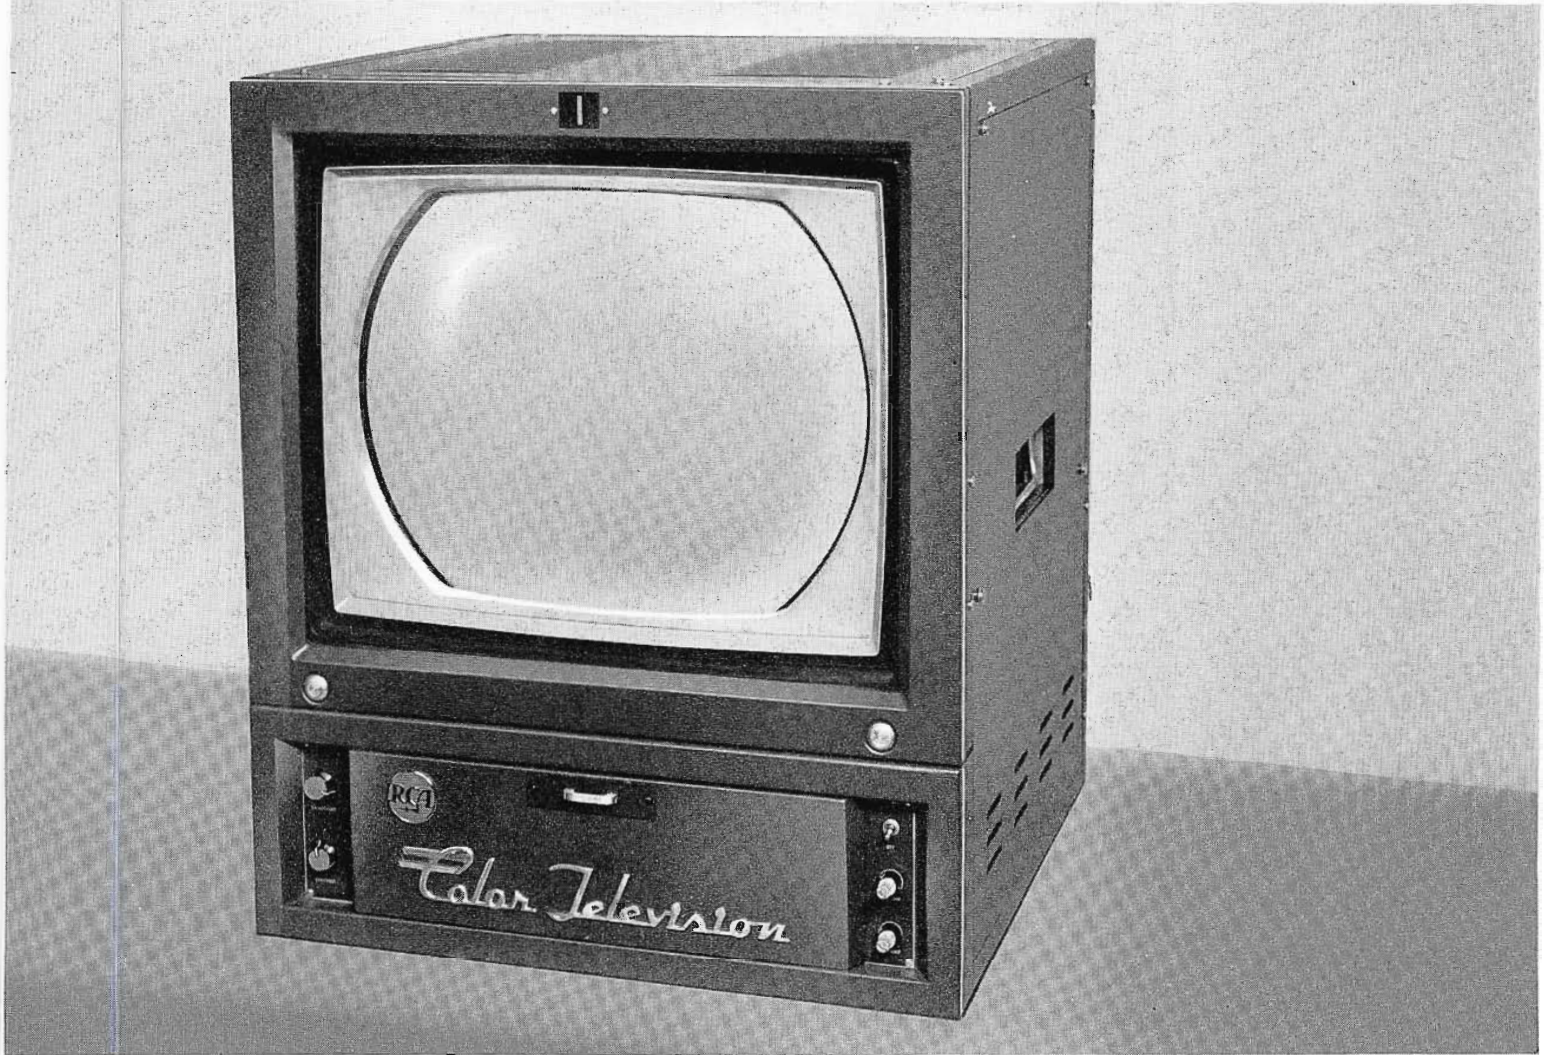

FIG. 1. New RCA TM-21 Color Control Monitor. Only operating controls normally exposed are brightness, contrast and ON-OFF switch.
characteristics of the TM-21, let us examine quickly some of the more obvious aspects of the monitor. The front-view, Fig. 1, shows that the monitor has a professional appearance with an over-all size determined primarily by the 21-inch color kinescope. Cabinet dimensions are 27 inches wide, 33 inches high, and 28 inches deep. The only operating controls normally exposed are: brightness, contrast, and the power off-on switch. The main power fuses are also accessible on the front panel. Internally, the monitor consists of five main chassis mounted on a sturdy frame: (1) decoder, (2) output amplifiers, (3) deflection and high voltage, (4) convergence,